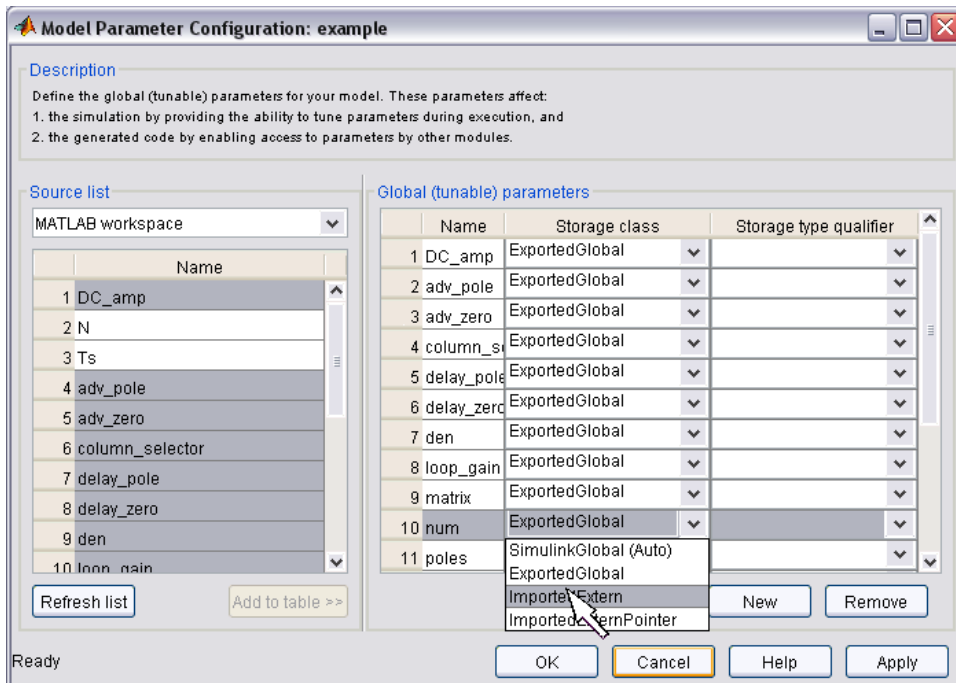

Figure 8: Set variables "ExportedGlobal"
- 1- From your Simulink file, go to **Simulation** → **Configuration Parameters** → **Optimization** → **Configure**. All variables found in MatLab workspace are enumerated in the Source list (figure 8).